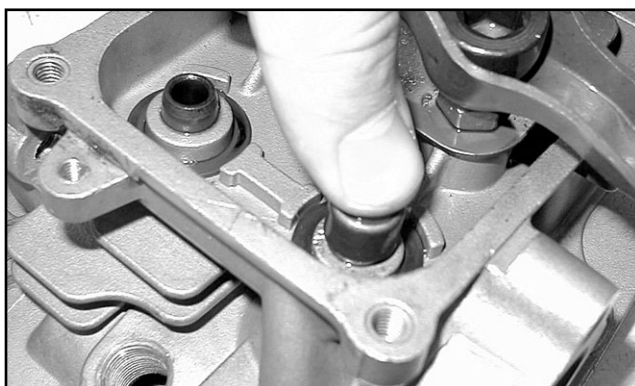

Figure 5-13. Install Valve Stem Seals
- b. Press seal on to intake valve guide bushing until it bottoms (Figure 5-13).